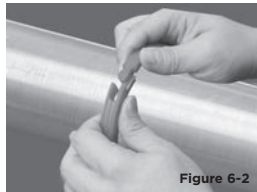

Figure 6-2
3. Insert the end of the oil seal into the mating slot (Figure 6-2) and connect it.